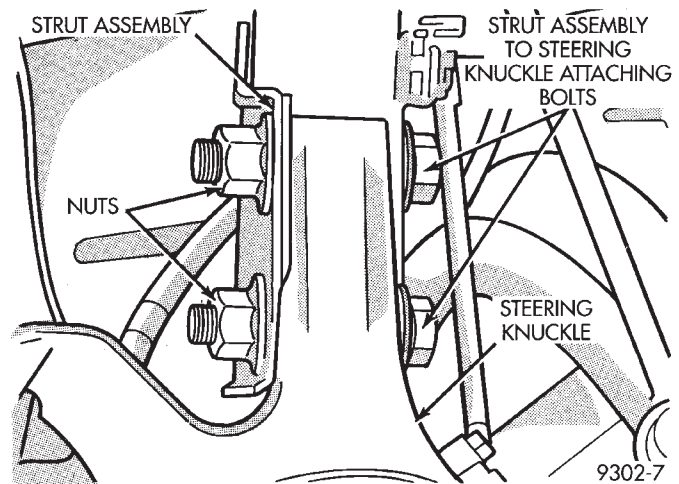

Fig. 5 Strut To Steering Knuckle Attaching Bolts
(8) Remove the top and bottom bolt, (Fig. 5) attaching the strut to the steering knuckle. Separate the steering knuckle from the strut and position steering knuckle so it is out of the way of the strut.
(10) Install the steering knuckle in the strut bracket.
(11) Loosely install the bolts (Fig. 5) attaching the strut to the steering knuckle.
- (15) Install the wheel and tire assemblies.
- (16) Lower vehicle until the full weight of the vehicle is supported by the vehicle's suspension.
- (17) Correctly jounce the front and rear of vehicle an equal amount of times.
- (18) Adjust the front camber to the preferred setting by pushing in or pulling outward on the top of the wheel and tire as required. When camber is correctly set, tighten the upper and lower attaching bolt (Fig. 5) enough to not allow the steering knuckle to move in the strut bracket. Again jounce front and rear of vehicle an equal amount of times and verify front camber setting. See Alignment Specifications in this group of the service manual for required specifications.
(19) When front camber is correctly set, torque both front strut to steering knuckle attaching bolts to 170 N·m (125 ft. lbs.).
(20) Check the front wheel Toe settings. If Toe readings obtained are not within the required specification range, adjust Toe to meet the preferred specification setting. Adjust front Toe to the preferred the Toe specification using the Toe setting procedure.
(21) Road test the vehicle. If vehicle still drifts or leads, repeat the camber adjustment procedure but bias the cross car camber setting opposite of the direction in which the vehicle has the tendency to lead. **For example, if the vehicle leads left, compensate by setting left front camber to 0.0 degrees and right front camber to + 0.6 degrees. The cross car camber is now at + 0.6 degrees, the maximum allowed per the alignment specification.**